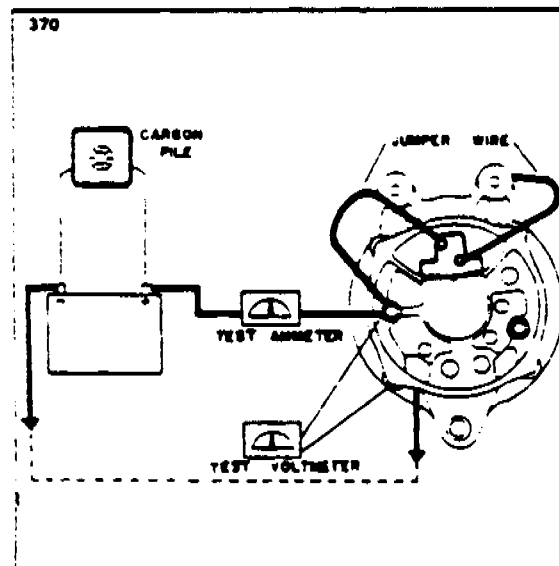

FIGURE 9-27m. TESTING ALTERNATOR
a. Wiring connections for bench testing the alternator are shown in Figure 9-27m. Refer to the individual specification pages for output test figures. Adjust the carbon pile, if necessary, to obtain the specified voltage.